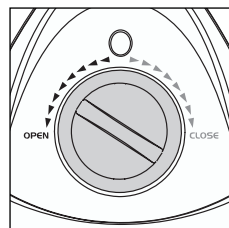

fig. 2
"Easy Refill" (figs. 2 and 3)
- Empty the iron by opening the "Easy Refill" cap (fig. 2) and holding it with the tip pointing upwards. Shake it lightly above a sink then close the cap.